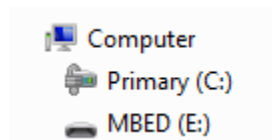

Figure 5. Removable drive named MBED
3. In **Windows Explorer**, verify the presence of a removable drive named **MBED**. See Figure 5.